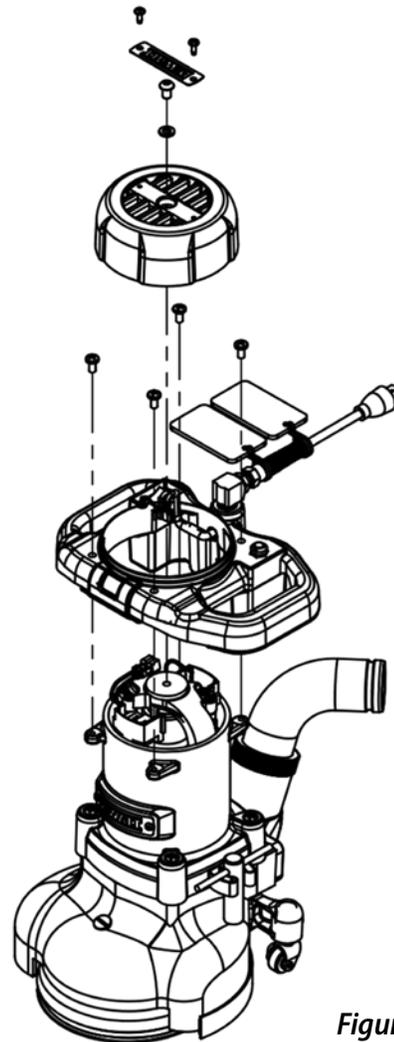

Figure 11
- 1 Remove the motor cover. See Figure 11.